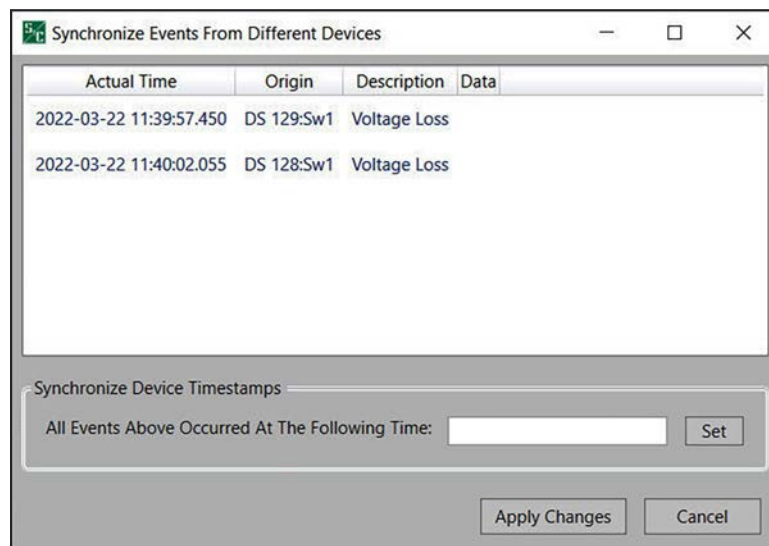

Figure 125. Synchronize Events From Different Devices dialog box.
- (c) When all events have been selected, click on the **Reorder Selected** button. The following dialog box will open. See Figure 125.